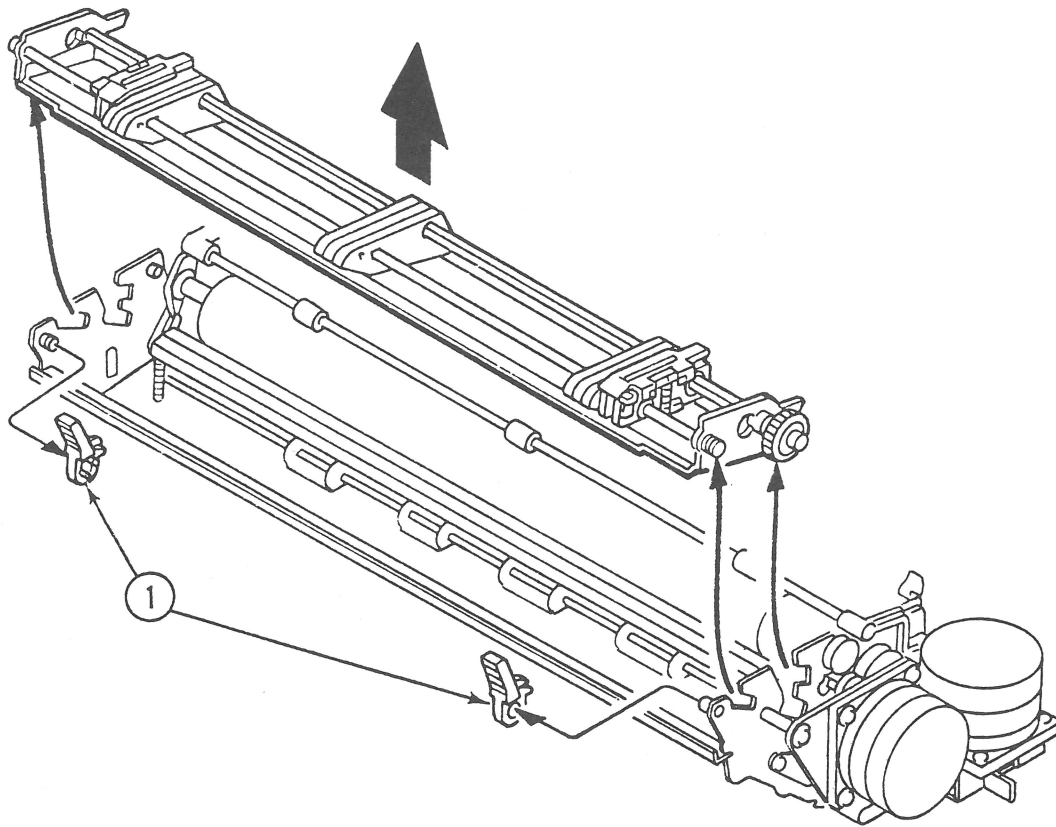

FIGURE 5
1. Locate and push back the blue tractor levers, both right and left (Figure 5, #1), to release the tractor assembly.